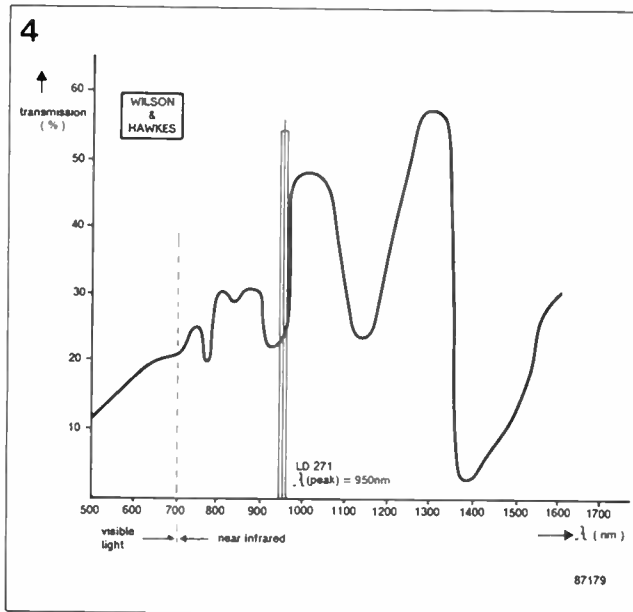

Fig. 4 Correlation between wavelength and percentage transmission through 1 km of atmosphere at sea level (source: reference (1)).
the signal strength in the range 1 to 200 Hz may also affect the quality of the received signal. This effect is caused by scattering of the signal, and fluctuations in the absorption of the air layers. A typical atmospheric absorption spectrum is shown in Fig. 4. The curve is derived from a wider spectrum analysis described in (1). It shows the percentage transmission through 1 km of atmosphere at sea level. It is seen that the IRED LD271 outputs its peak intensity at a wavelength that forms the lower limit of a so-called *atmospheric window*, i.e., a frequency band in which the atmospheric attenuation is